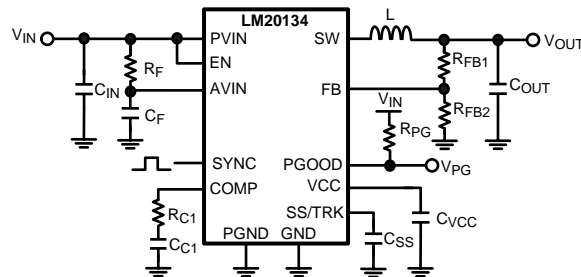

Figure 28. Typical Application Circuit
The LM20134 switching regulator features all of the functions necessary to implement an efficient low voltage buck regulator using a minimum number of external components. This easy to use regulator features two integrated switches and is capable of supplying up to 4A of continuous output current. The regulator utilizes peak current mode control with nonlinear slope compensation to optimize stability and transient response over the entire output voltage range. Peak current mode control also provides inherent line feed-forward, cycle-by-cycle current limiting and easy loop compensation. The internal oscillator can synchronize up to 1.5 MHz minimizing the inductor size while still achieving efficiencies up to 96%. The precision internal voltage reference allows the output to be set as low as 0.8V. Fault protection features include: current limiting, thermal shutdown, over voltage protection, and shutdown capability. The device is available in the HTSSOP 16-pin package featuring an exposed pad to aid thermal dissipation. The LM20134 can be used in numerous applications to efficiently step-down from a 5V or 3.3V bus. The typical application circuit for the LM20134 is shown in Figure 28 in the design guide.
This section walks the designer through the steps necessary to select the external components to build a fully functional power supply. As with any DC-DC converter numerous trade-offs are possible to optimize the design for efficiency, size, or performance. These will be taken into account and highlighted throughout this discussion. To facilitate component selection discussions the circuit shown in Figure 28 below may be used as a reference. Unless otherwise indicated all formulas assume units of amps (A) for current, farads (F) for capacitance, henries (H) for inductance and volts (V) for voltages.
To prevent high frequency noise spikes from disturbing the sensitive analog circuitry connected to the AVIN and AGND pins, a high frequency RC filter is required between PVIN and AVIN. These components are shown in Figure 28 as C_F and R_F . The required value for R_F is 1Ω. C_F must be used. Recommended value of C_F is 1.0 μF. The filter capacitor, C_F should be placed as close to the IC as possible with a direct connection from AVIN to AGND. A good quality X5R or X7R ceramic capacitor should be used for C_F .